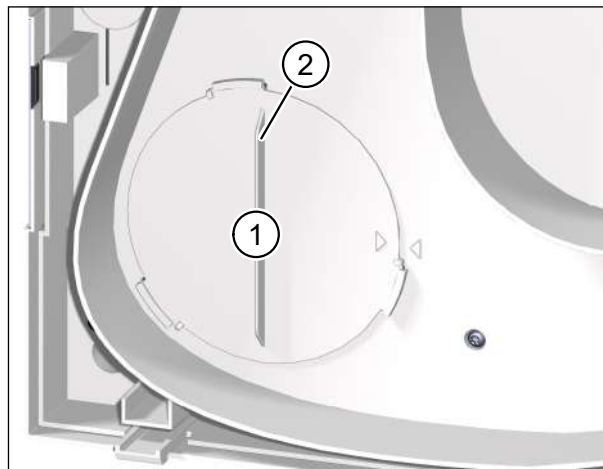

Fig. 17: Removing the outdoor air filter
- ▶ Turn the filter cover (item 1 in Fig. 17) using the hand grip (item 2 in Fig. 17) anti-clockwise until the filter cover is released from the retainers.
- ▶ Check the position of the filter cover. The hand grip must be vertical and the arrow on the filter cover must line up with the arrow for the locking position (see Fig. 17 on page 32).